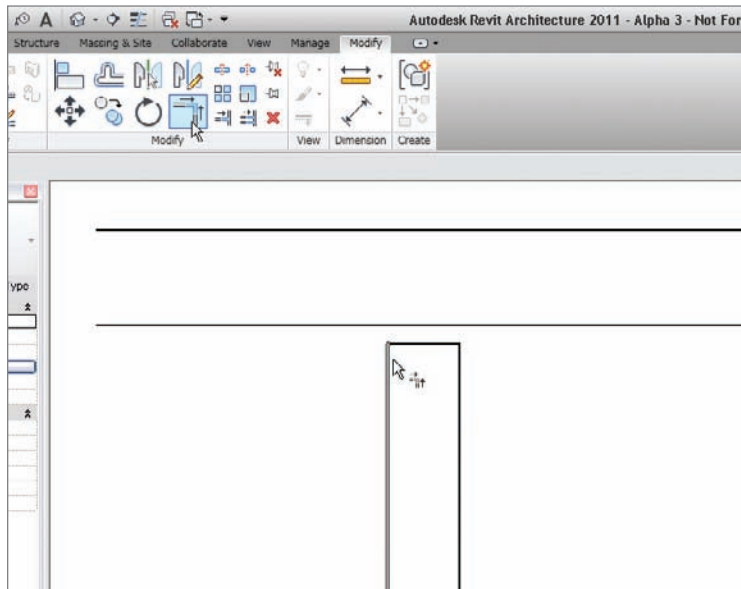

FIGURE 12.65 Trimming the corners
19. Click the Trim/Extend Single Element button on the Modify tab, as shown in Figure 12.65.
20. Trim the edges of the top of the wall, as shown in Figure 12.65.